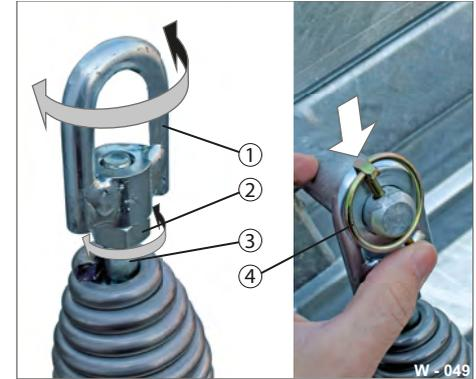

Fig. 48 Adjusting/installing lift spring
- ▶ Loosen the wing nuts (Fig. 48/2).
- ▶ Screw the towing eye (Fig. 48/1) further into the rod (Fig. 48/3).